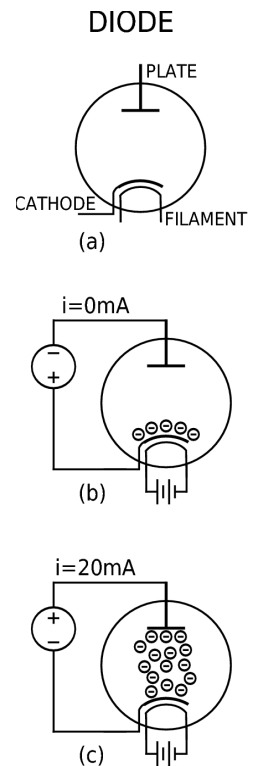

Fig. 2: The diode, forward and reversed biased
As the filament heats the cathode, it emits electrons from its surface in a process called thermionic emission. With the cathode warmed up, a cloud of electrons gathers around the cathode, as shown in Fig. 2(b). The electrons represented in this drawing have no place to go because the plate is negatively charged with respect to the cathode. In matters of electricity, like-charged objects repel each other, so the negatively charged electrons just hang around the cathode like farm boys dreaming of big city lights! But consider Fig. 2(c). Things change when the plate is made positive with respect to the cathode. Now the electrons stream off from the cathode to the plate, causing current to flow¹ in the plate-cathode circuit. If you think about this behavior, you see that the vacuum diode functions as a one-way valve that allows current to flow in only one direction. It is this function that makes it useful for converting alternating current (AC) into direct current (DC).